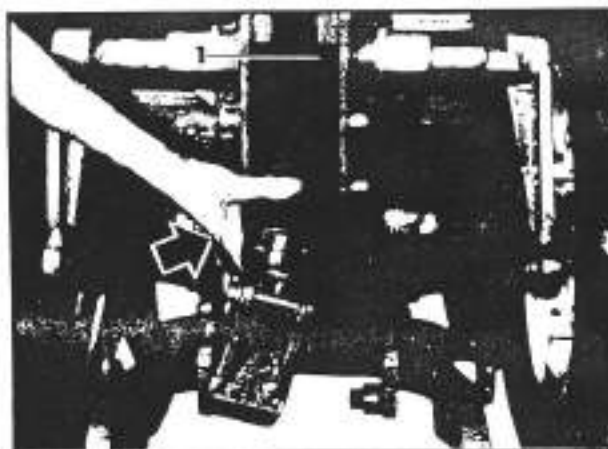

Fig. 3-80. Removal of the power - lift jack
- d. Detact the outlet connector (1; fig. 3-80) of the hydraulic fluid and take out the pivot pin located at the rear of the jack. Take out the jack.